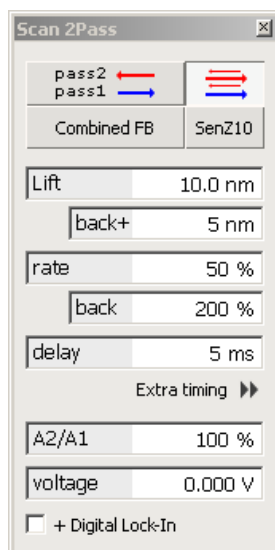

Figure 4.3.1 The 2Pass Scan panel for using two-pass techniques.
- Select 2Pass Scan in the list of the scanning modes to switch the instrument to the two-pass MFM/EFM technique. The MFM/EFM control panel appears (fig. 4.3.1):